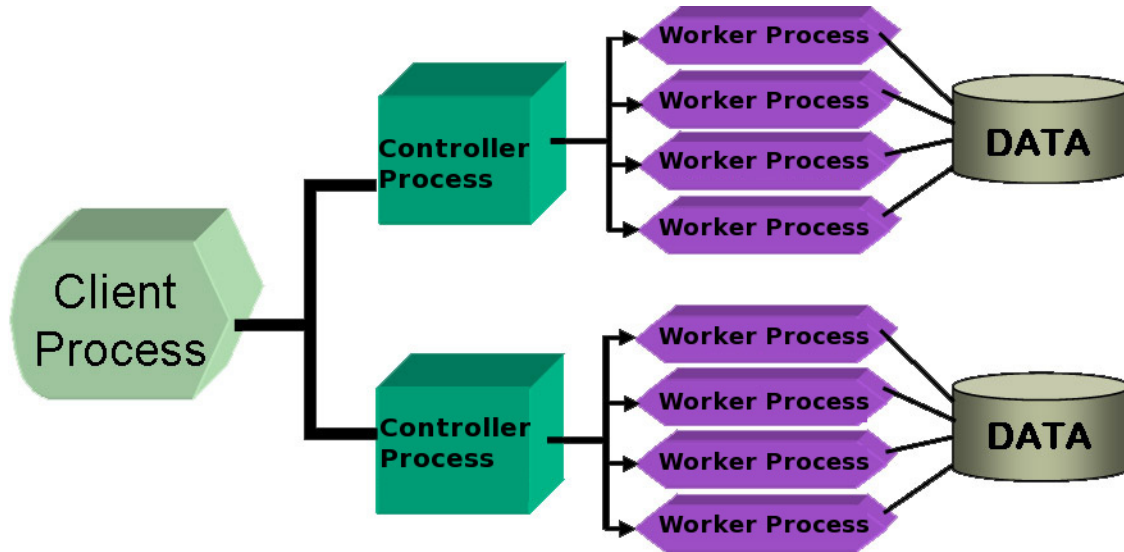

Figure 4: FV Parallel with Licensed Controller Processes
For the case of **FieldView** Parallel, following what is done for Client-Server, it is possible to run an unlimited number of server ‘Controller’ processes. What is licensed with the **FieldView** Parallel license is the total number of Worker Processes which can be run; the Controller processes are not counted towards this limit. In the example above (see Figure 4), we illustrate how it is possible to read two different datasets using a total of eight (8) worker processes, applying four (4) worker processes to each dataset. To do this, a **FieldView** Parallel license for 8 processes would be required.